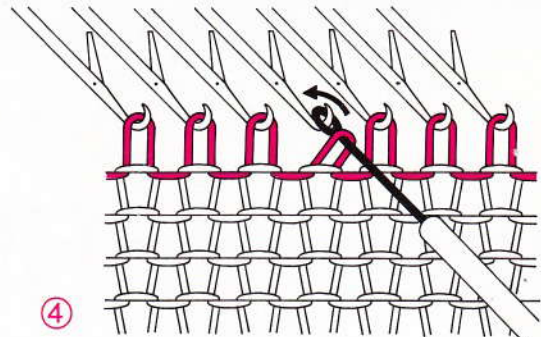

Fig. 221
- Remove the latch tool carefully and with the 1-stitch transfer tool place the stitch onto the empty needle (fig. 221).